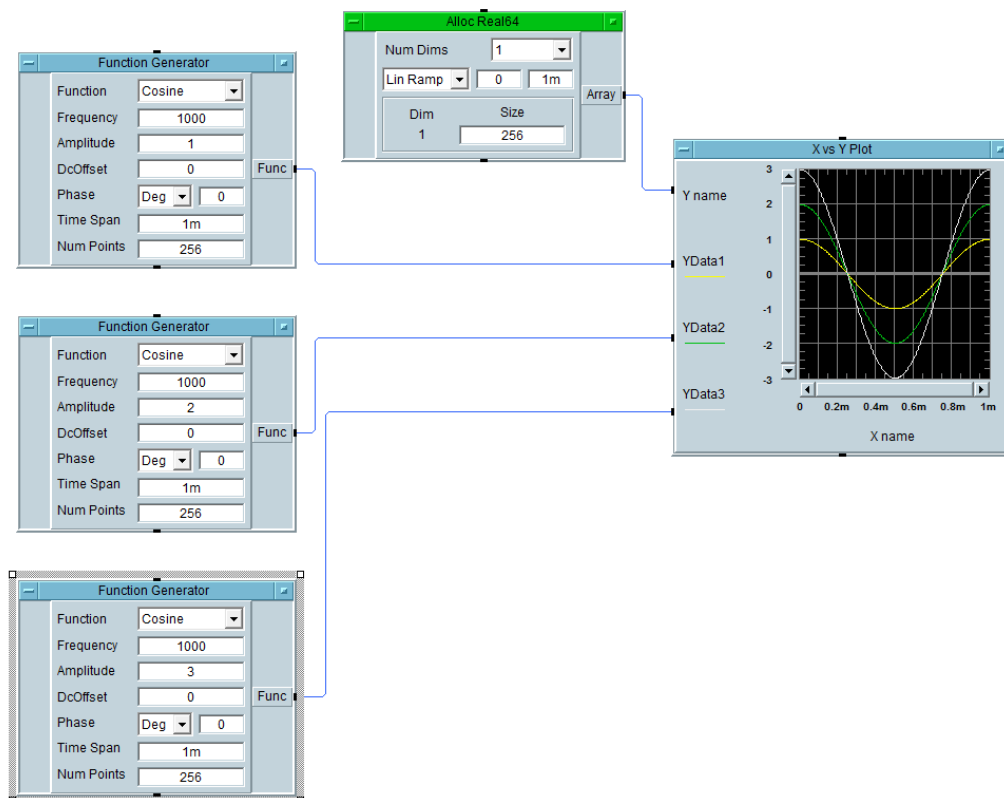

Fig. 35. Displaying using X vs Y Plot object
- Add three Function Generator objects in the work area. For each object, set 1 kHz cosine waveform with 1 millisecond span time and 256 sample points. Adjust their amplitudes as 1, 2, and 3, respectively as shown in Fig. 35.
- For the x axis, a same length array to the X vs Y Plot object should be given. For this purpose, add an Alloc Real64 object in the work area and choose Lin Ramp from 0 to 1m with size being equal to 256. Make the connections as shown in Fig. 35 and run the program. You will observe three cosine waveforms with different amplitudes on the same graph.